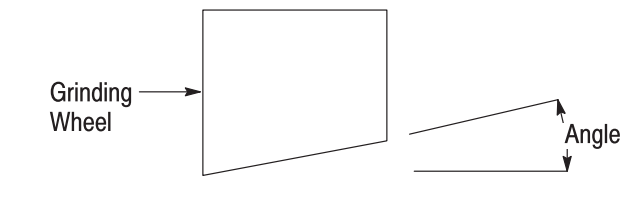

Figure 5
- Using an angle diamond dresser, dress an angle into the grinding wheel. See Figure 5.